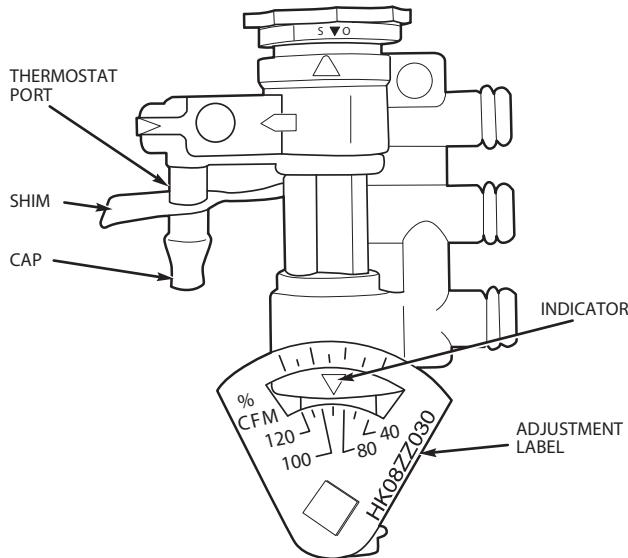
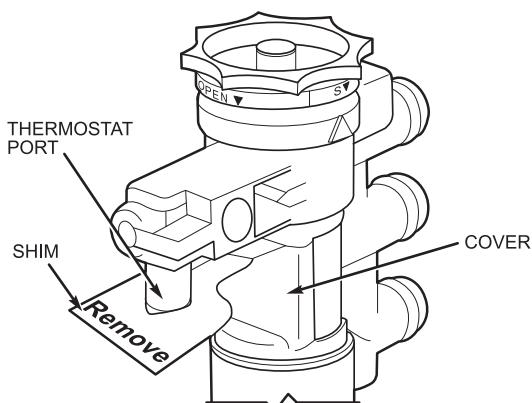
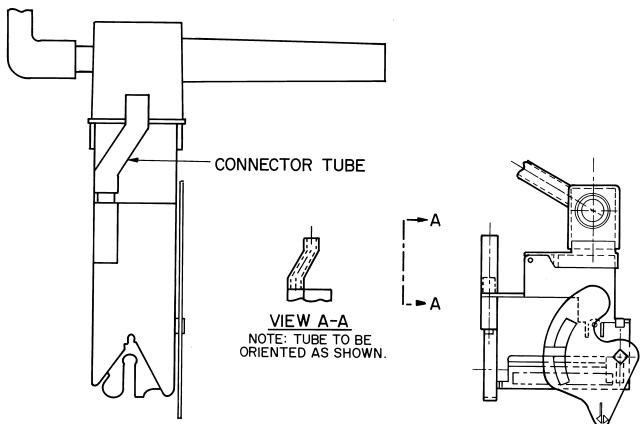

Fig. 34 — Setting Maximum Volume (37HS Controller)
Fig. 35 — Shim Removal
Fig. 38 — Correct Orientation of Connector Tube
5. Remove cap from thermostat port of volume controller. See Fig. 34. Pull shim down until released from thermostat port and then pull shim out from volume controller body. See Fig. 35. Discard shim. Re-install cap on the thermostat port.
controller connected by a flexible offset tube. Verify that the offset is in the correct direction. See Fig. 38. Remove cap from thermostat port of volume controller. See Fig. 34. Pull shim down until released from thermostat port and then pull shim out from volume controller body. See Fig. 35. Discard shim.
- a. Remove cap from thermostat port of volume controller. See Fig. 34. Pull shim down until released from thermostat port and then pull shim out from volume controller body. See Fig. 35. Discard shim.